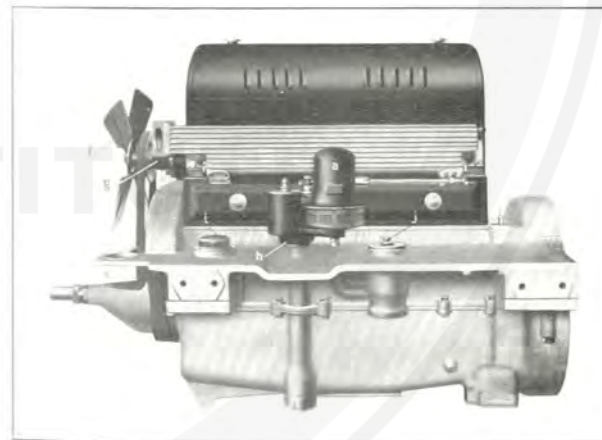

Fig. 2.
The **Carburettor** (a) (fig. 2) is fixed direct to conduit by means of a flange.
The **fan** (f) (fig. 2) is belt operated and its support (g) is fixed to cylinder and built as body of the water pump.
Oil is filled (i) (fig. 2) by means of a large cap on the same side where are also the **oil strainer** (j) and the **pressure regulating valve**, thus the whole of devices for lubricating the engine are located on the same side of the crank-case.
The engine is water cooled by means of a centrifugal pump (9) (fig. 2) located at front within the cylinder and in line with the fan.